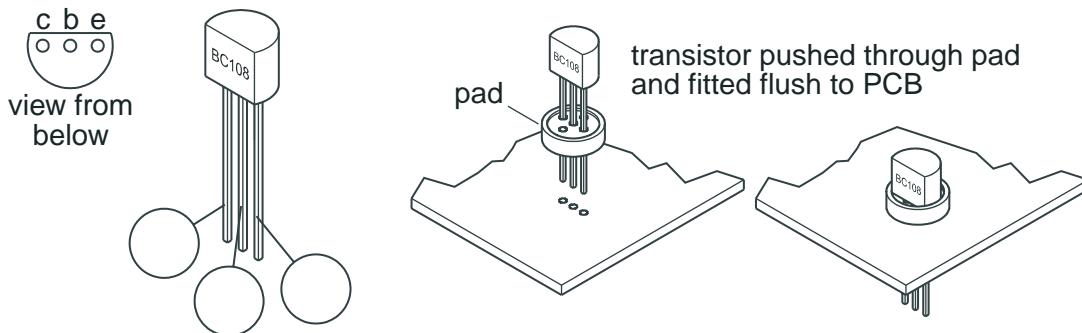

Fig. 6
- (c) Component **TR1** is a small plastic cased NPN transistor. Fig. 6 shows details of the transistor and fitting method, using a plastic transistor pad.